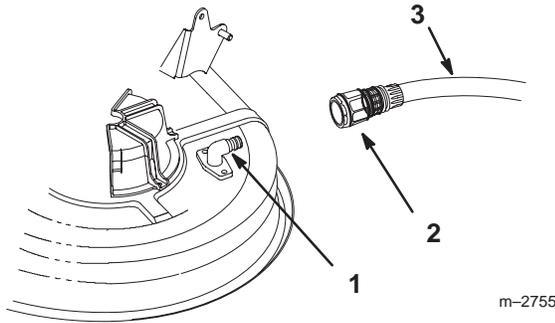

Figure 7
- 2. Attach hose coupling to the end of the mower washout fitting, turn water on high (Fig. 7 or 8).